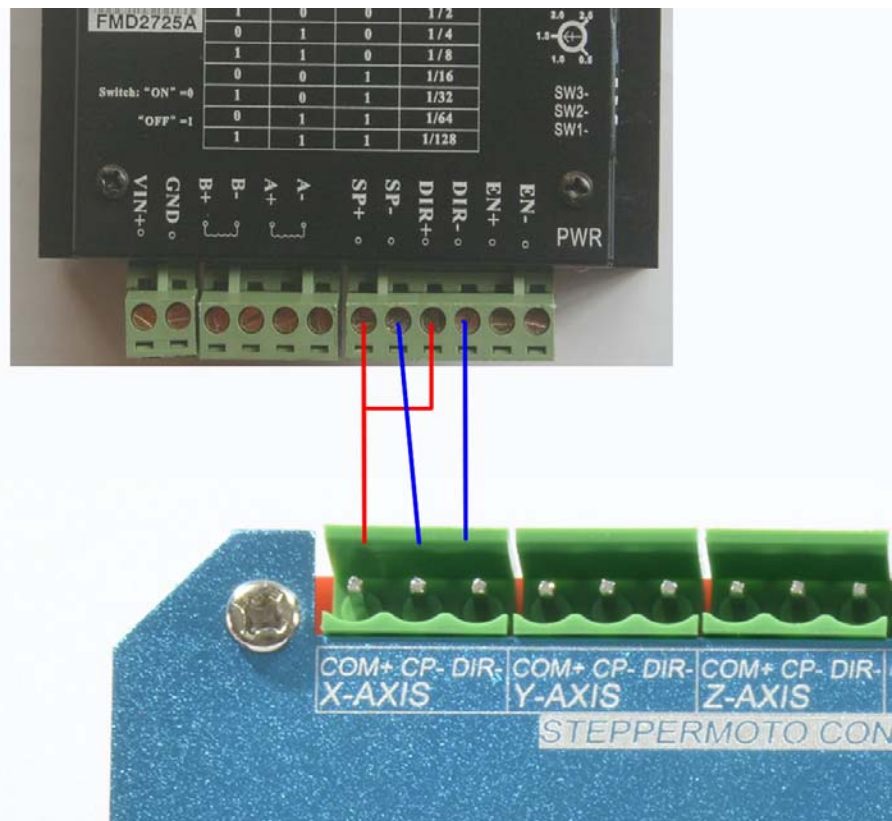

Figure2-2. Stepper motor driver connection
- B)6-axis stepper motor control signal output, axes are defined as X\Y\Z\A\B\C from left to right. Each axis is defined as COM+\CP-\DIR-. They are positive common, negative pulse, negative direction. This card is common positive connection, so CK+ and DIR+ of Stepper driver should be connected to COM+. This board does not support the common negative connection. See as Figure2-2. This card doesn't have EN signal, Most drives on sale should not connected to the EN signal.